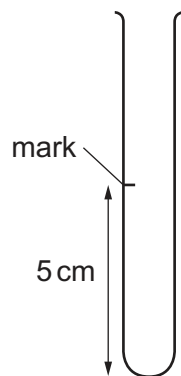

Fig. 1.4
step 11 Put a mark 5 cm from the bottom of each of the small test-tubes, as shown in Fig. 1.4.